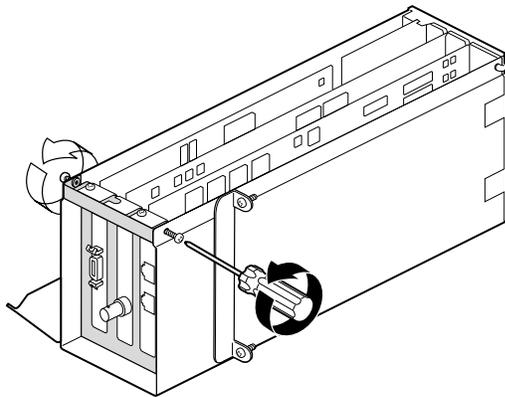

Figure 4-37 Removing the I/O Door Screws
2. Remove the screws that secure the I/O panel door to the PCI module, as shown in Figure 4-37.